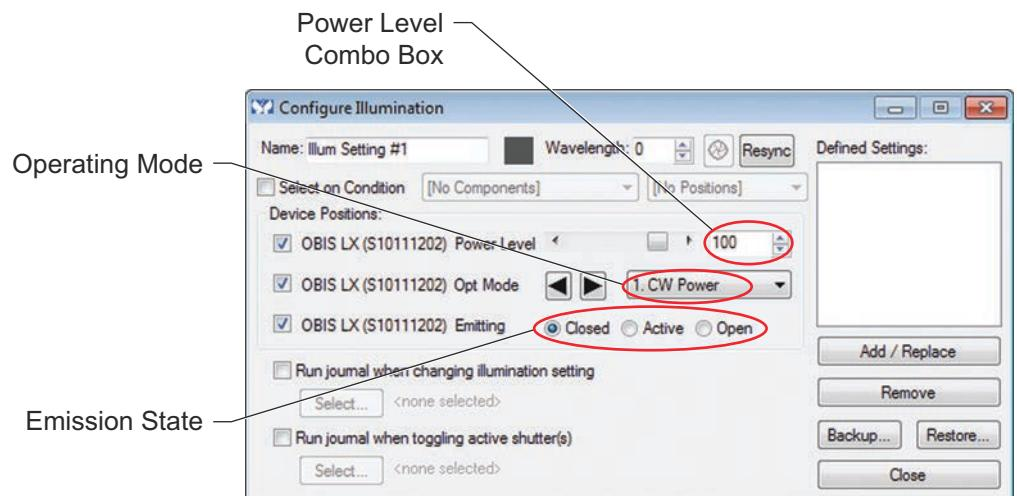

Figure H-22. Settings for Configure Illumination
- The window shown in Figure H-22 is displayed: